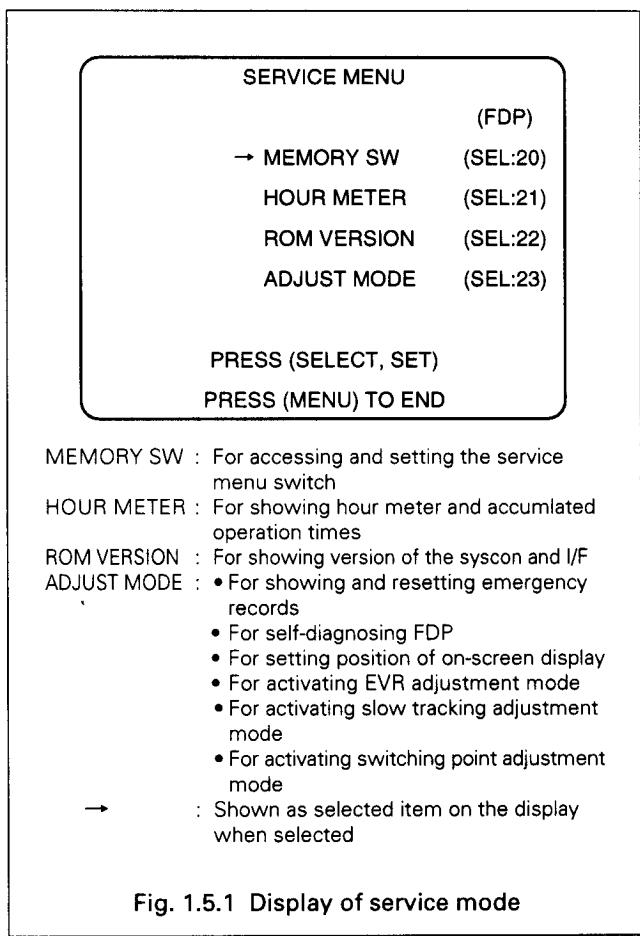

Fig. 1.5.1 Display of service mode
2. As the VTR enters the service mode, "SERVICE MENU" appears on the on-screen display or "SEL:20" appears on the FDP. (Refer to Fig. 1.5.1.)
3. Select "MEMORY SW (SEL:20)" by pressing the **SELECT** button. (Refer to Fig. 1.5.1.)
2. Select "HOUR METER (SEL:21)" by pressing the **SELECT** button. (Refer to Fig. 1.5.1.)
2. Select "ROM VERSION (SEL:22)" by pressing the **SELECT** button. (Refer to Fig. 1.5.1.)
2. Select "ADJUST MODE (SEL:23)" by pressing the **SELECT** button. (Refer to Fig. 1.5.1.)